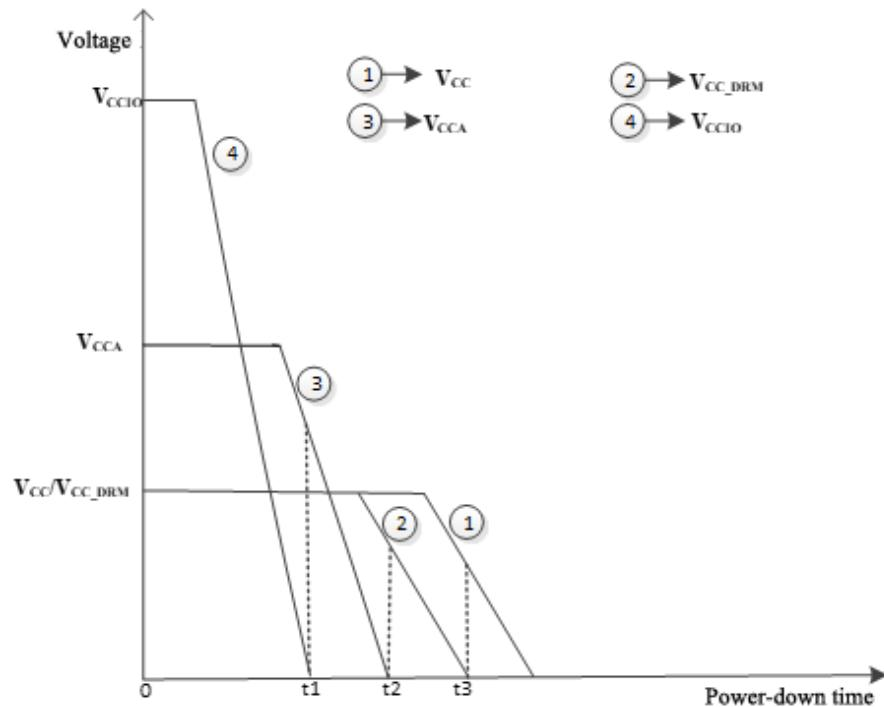

Figure 2-2 Power-down Timing Diagram
- The recommended power-down sequence is the reverse of the recommended power-up sequence, as shown in Figure 2-2. Before reaching zero voltage, the following must be met: $VCCIO \leq VCCA \leq VCC_DRM \leq VCC$.